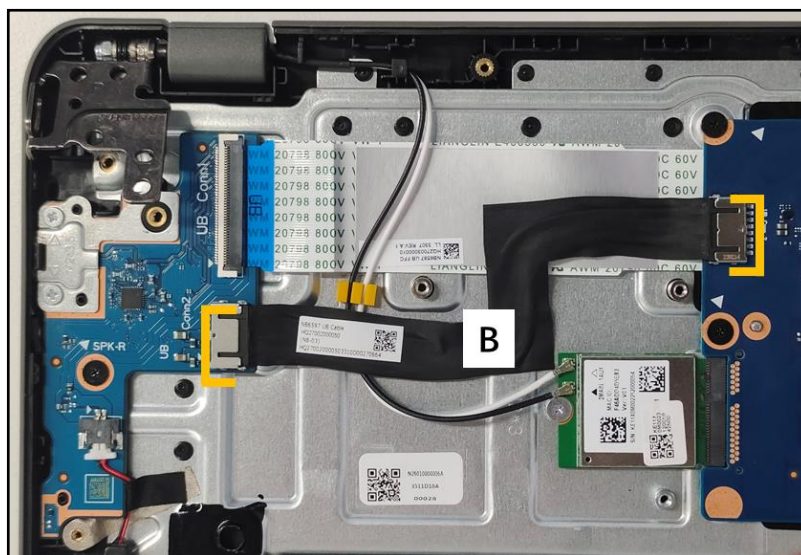

Figure 3-24. USB Board Removal
4. Disconnect the USB board L CABLE (B) from the USB board and mainboard connectors (Figure 3-24). Then remove it from the top assembly.